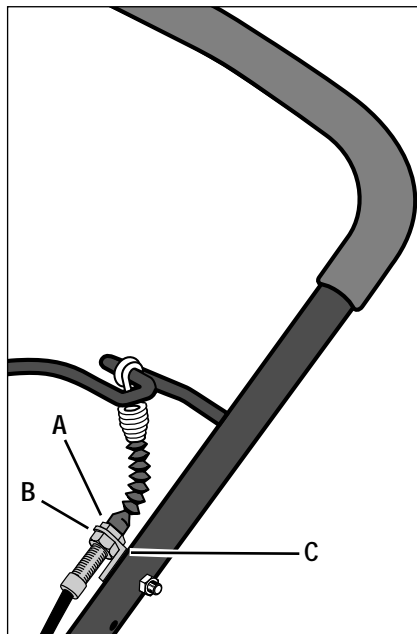

Figure 5-2: Belt tension adjustment.
- D.** To make an adjustment to belt tension, shut off the engine, let all moving parts stop completely, and adjust the position of the two nuts on the stud shown in Figure 5-2 as described next:
1. To tighten belt tension, close the bail, move the upper nut (A, Figure 5-2) upward, then move the lower nut (B) upward. To loosen belt tension, move the lower nut down and then the upper nut down. Tighten both nuts securely.
2. If adjustments over time move the nuts to the top of the threaded stud, the cable bracket (C) can be moved down the handlebar to the next hole. This permits a new range of adjustments.